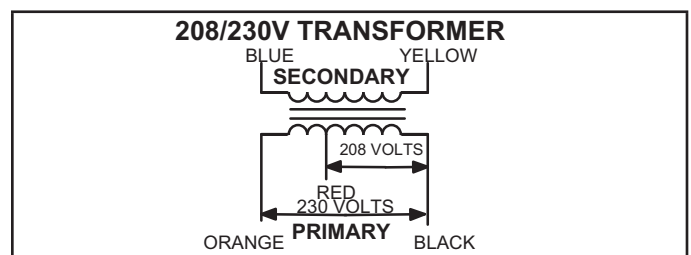

FIGURE 2
All use a single line voltage to 24VAC transformer mounted in the control box. Transformer supplies power to control circuits in the unit. The transformer is rated at 70VA and is protected by a 3.5 amp circuit breaker (CB8). The 208/230 (Y) voltage transformers use two primary voltage taps as shown in figure 2, while 460 (G) and 575 (J) voltage transformers use a single primary voltage tap.